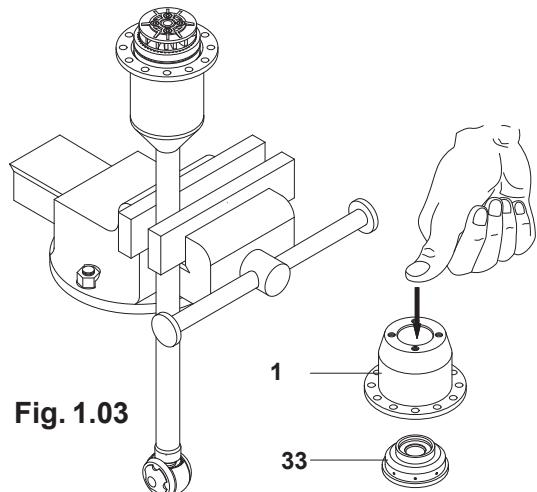

Fig. 1.03
1.2.03) Remove the top casing pos. 1 and push out the diffuser kit pos. 33 (Fig.1.03), then replace it after having selected the desired diffuser as per table “A” chapter 8.